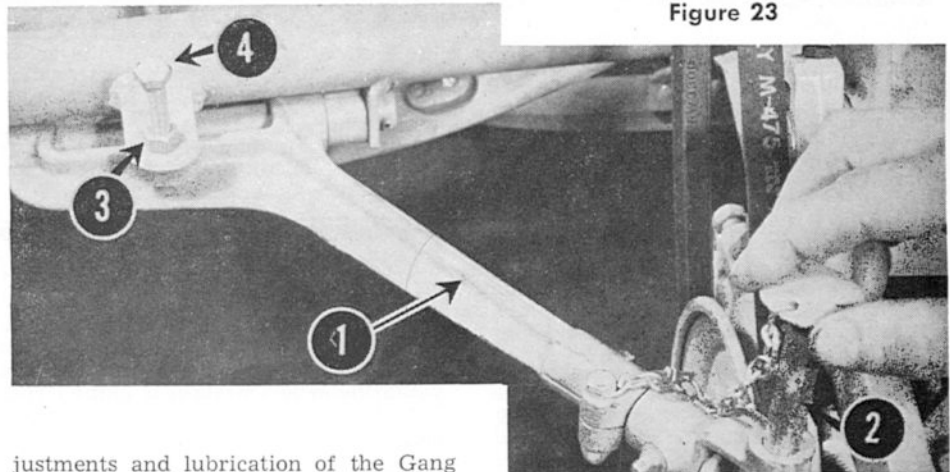

Figure 23
Next, attach the Leader, 1 in Figure 23, as follows:
1. Remove the top Tie Rod Bolt, 5 in Figure 20, replacing it with the Leader Pivot and Stud, as shown in Figure 23.
2. Attach the Leader Swivel to the Leader Pivot by using the Leader Swivel Pin, 2 in Figure 23. On new equipment, the Leader Swivel Pin may not fit easily because of paint on the Pin and inside the holes into which it fits. Use fine emery paper to remove the paint.
**CUTTING HEIGHT.** To adjust the cutting height, loosen the lock nut, 3 in Figure 23, and turn the Height Adjusting Screw, 4 in Figure 23, clockwise (to increase cutting height) or counter-clockwise (to lower cutting height). Tighten the lock nut when proper adjustment is reached.